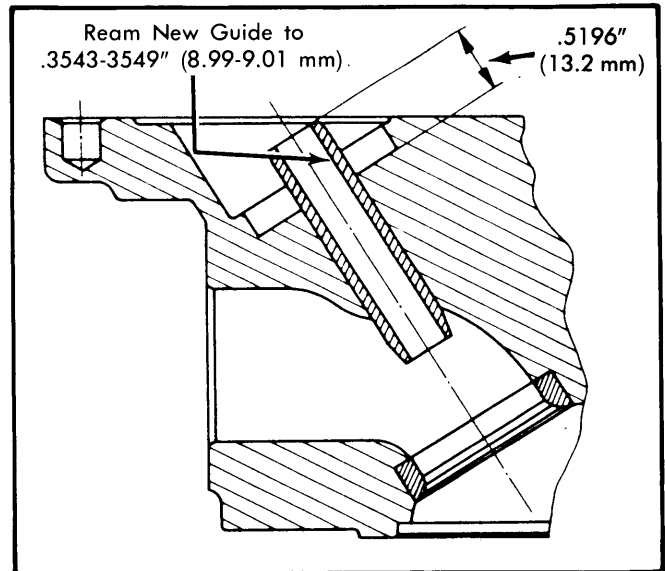

Fig. 6 Cross Section of Valve Guide Installed in Head
3) Press valve guide into head from camshaft side until a measurement of .5196" (13.2 mm) is reached. See Fig. 6. Use suitable grease as a lubricant when pressing in valve guides. Bore or ream valve guide I.D. to .3543-.3549" (8.99-9.01 mm).